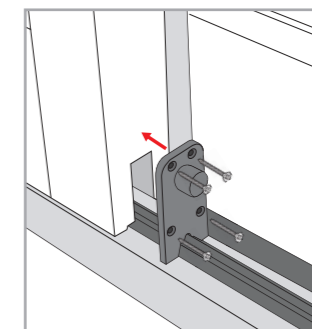

Figure 22: Bottom rail stop plate.
Step 8 - Line up the rear side stop plate (bottom) and screw the plate in place as shown in Figure 22.